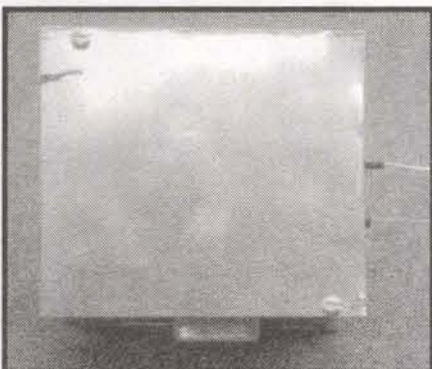

FIGURE 15
9) In these next steps, you will drill the holes for holding the top on with screws. The screw holes should be centered along the length of the flanges. Position the top cover on the flanges with their alignment marks matching. Again, use alligator clips to hold the top in position. Drill the first hole using a #50 bit, on any of the four corners. Refer to Figure 15. Remember, center the hole on the flanges. Remove the top cover, and tap the flange using a #2 self-tapping screw (Walther's part number 947-1189). Enlarge the hole on the top cover by redrilling the hole with a #42 bit. This hole will allow the screw to pass through the top cover, and screw into the flange.